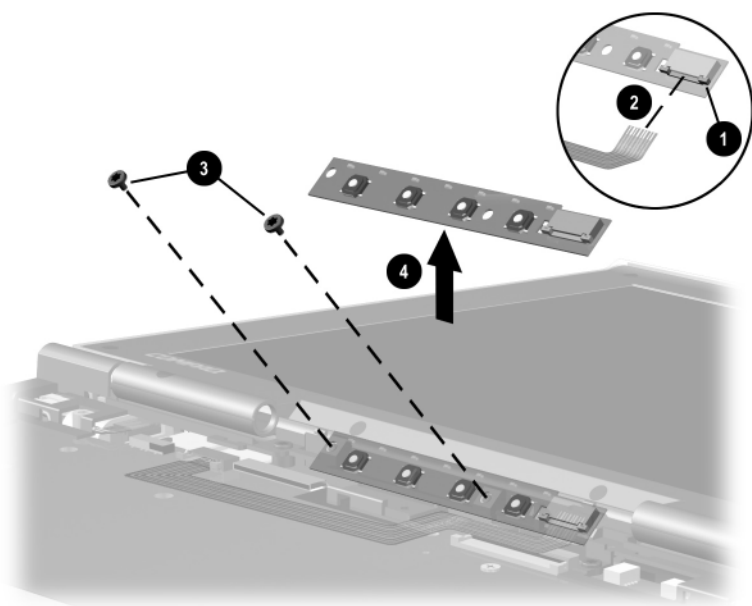

Figure 5-8. Removing the LED Board
5. Release the ZIF connector ❶ to which the LED board cable is connected and disconnect the LED board cable ❷ (Figure 5-8).
6. Remove the two black TM2 × 4 screws ❸ that secure the LED board to the top cover.
7. Remove the LED board ❹.